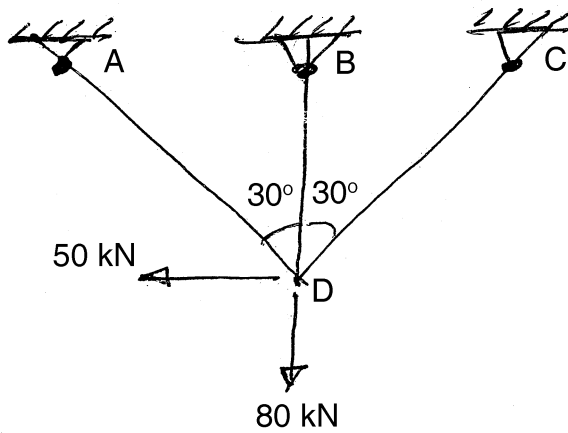

Fig. 7
6. Find forces in all members of a pin jointed truss as shown in Fig. 7 by using member oriented stiffness method.